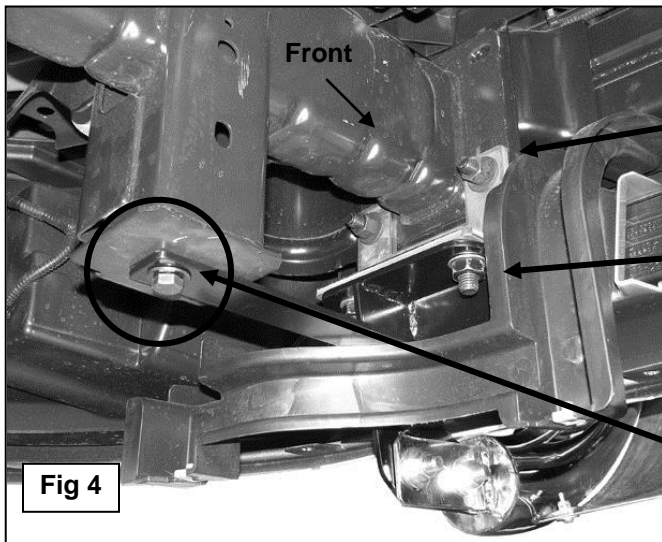

Fig 4
- Select (1) Upper Frame Bracket, (will fit left or right-without tow hooks only), and the driver side Mounting Bracket, (**Figure 3**). Bolt the two Brackets together with (2) 12mm Flat Washers, (2) 12mm Lock Washers and (2) 12mm Hex Nuts, (**Figure 4**). Do not tighten at this time.
- Insert the assembled Mounting Bracket up from behind the bumper and align the holes in the Mounting Bracket with the bumper bolts. Attach the Bracket to the bumper bolts using the factory hex nuts and snug but do not tighten the hardware, (**Figure 4**).
- e. Attach the flat end of the driver side Bracket to the frame with (1) 12-1.5mm x 30mm **Special Fine Thread** Hex Bolt, (1) 12mm Flat Washer and (1) 12mm Lock Washer, **(Figure 4)**. **IMPORTANT:** The hole in the bottom of the frame is **fine thread**. Only use the 12-1.5mm x 30mm Hex Bolt provided in the hardware kit. Snug but do not tighten all hardware at this time.